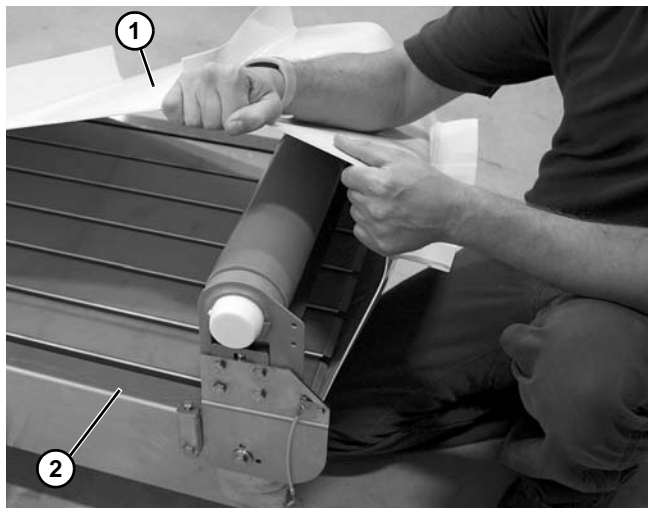

Figure 19
4. Position the belt (**Figure 19, item 1**) onto the conveyor (**Figure 19, item 2**).